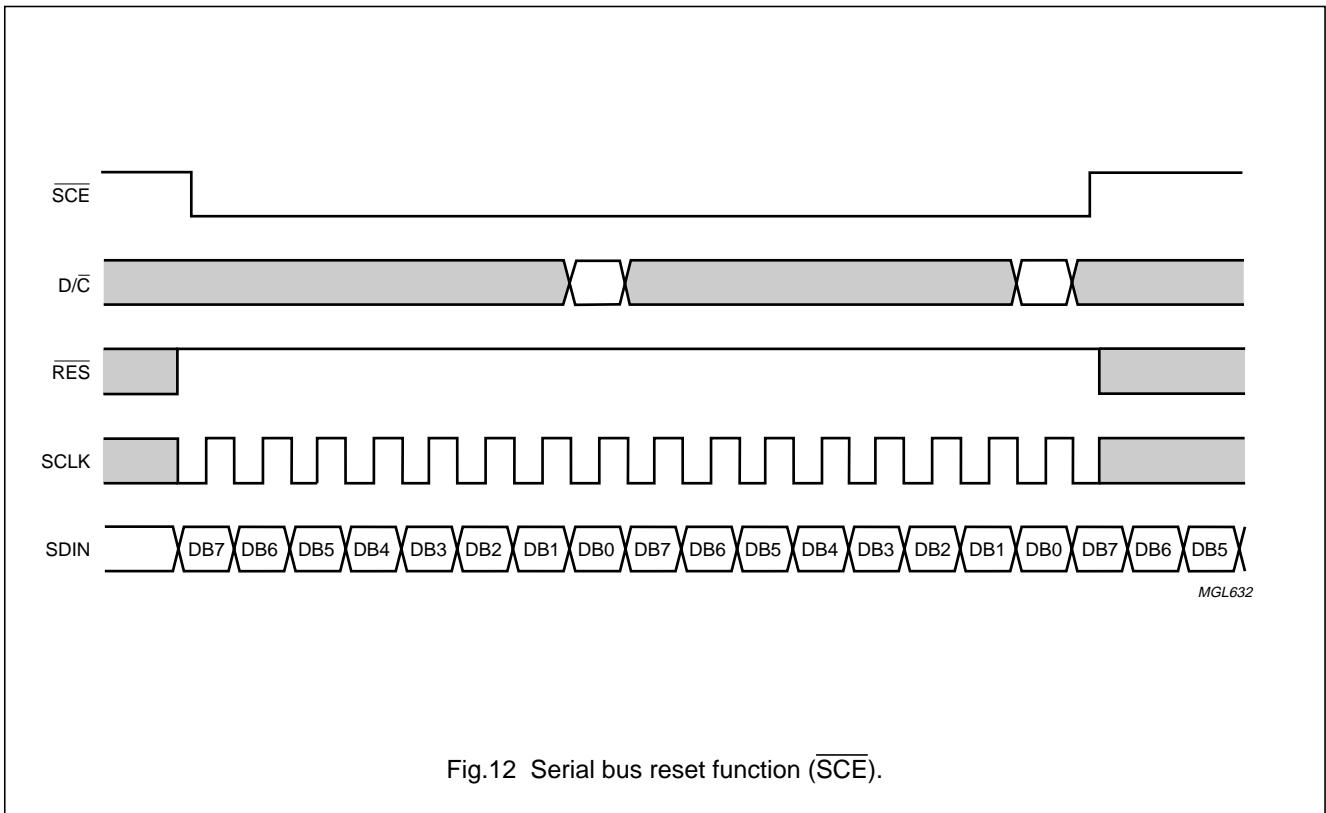

Fig.12 Serial bus reset function ( $\overline{SCE}$ ).
- When  $\overline{SCE}$  is HIGH, SCLK clock signals are ignored; during the HIGH time of  $\overline{SCE}$ , the serial interface is initialized (see Fig.12)
- If  $\overline{SCE}$  stays LOW after the last bit of a command/data byte, the serial interface expects bit 7 of the next byte at the next positive edge of SCLK (see Fig.12)